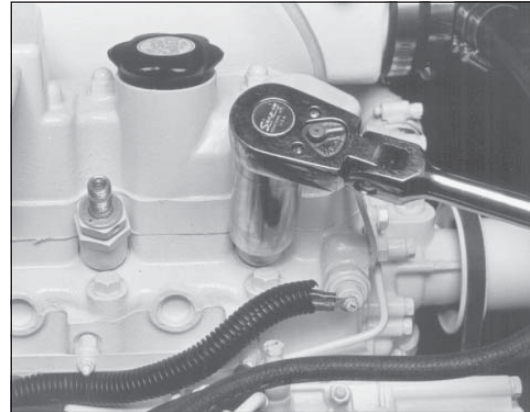

Figure 11: Unscrew injector.
- e. Unscrew and remove the injectors (Figure 11).